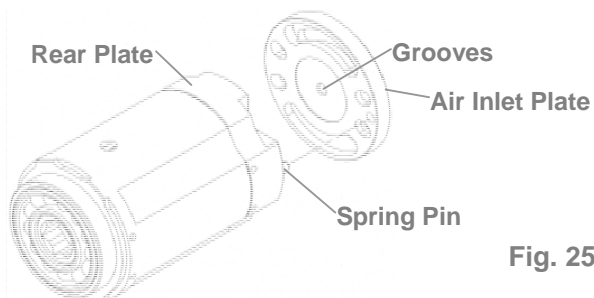

Fig. 251
- 2 Make the groove of the air inlet plate toward the rear plate and assemble. Make sure the holes aim at the pin while assembling, Fig. 251.